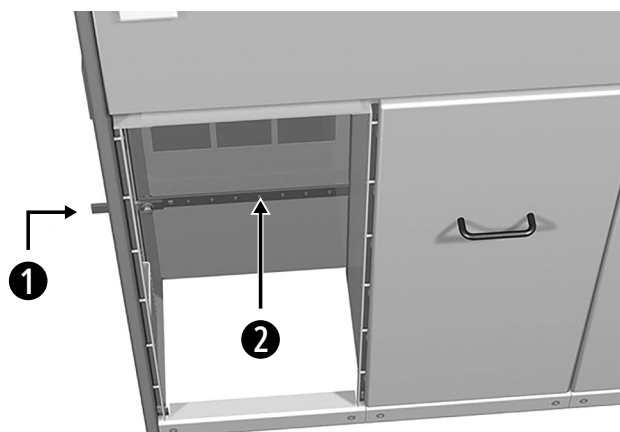

Figure 3-11: Earth bar position
The Xiria 630 unit can be connected either at the left or at the right side to the station earthing. An internal earth bar (2) is located at the rear of every cable connection compartment. This earth bar must connect the earth screens of the power cables and the system earth. See figure 3-11.